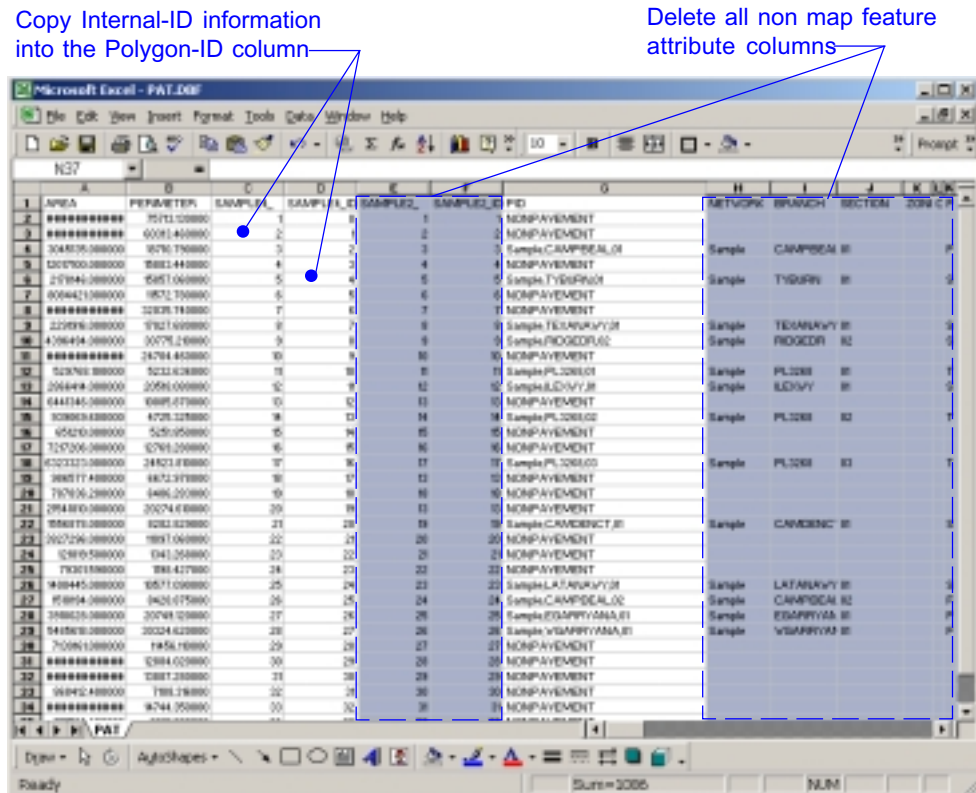

Figure 11
- (5) Make sure the original linked coverage (**input theme**), union theme, and output theme are all loaded in the themes dialog box. If not, load them now.
- (6) From the pull down menu select ANALYSIS, ESRI_UNION. Enter the theme name for the input, union, and output theme as prompted at the command line and enter through the remainder of the command.
- (7) Open a new drawing and display the output coverage to verify your changes.
- (8) Edit the PAT.dbf file for the new coverage (figure 11). It will be located in the folder that was created with the output coverage. As before overwrite the user ID column with the polygon ID column information while retaining the original column headings, for the new coverage. Delete all columns that do not contain map feature attributes, this includes the POLYGON ID and USER ID columns for both the INPUT and UNION themes. Save the file by overwriting the existing PAT.dbf file in d-base format.
- (9) Open Micro PAVER and update the database if you are adding new paving sections to the coverage rather than fixing an error or merging features.
- (10) Open PAVERGIS and select SETUP, AVAILABLE DATA SOURCES from the pull down menu.
- (11) In the GIS Map Coverage window click ADD and locate the PAT.dbf file for the updated coverage. Click OK, enter a description for the coverage, and click OK to exit the function.
- (12) Click NEXT to open the Data Preparation Export/Import screen. Select the coverage you just loaded from the Coverage pull-down selector.
- (13) Click RELOAD PID to load the link table. **Once a coverage has been linked the link table information is stored with the coverage and not the**